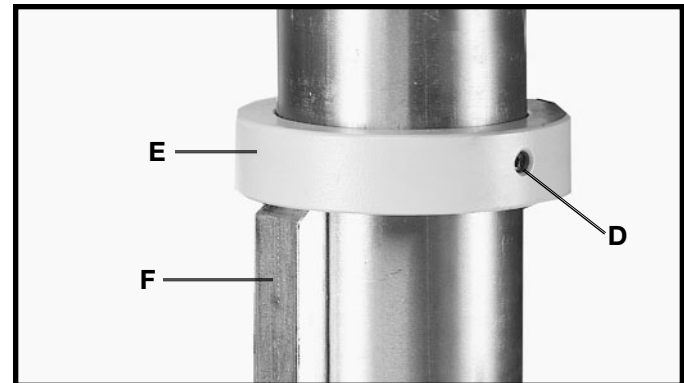

Fig. 9
5. Re-assemble ring (E) Fig. 9, which was removed in **STEP 1. IMPORTANT:** Bottom of ring (E) **MUST NOT** be pushed all the way down onto top of raising rack (F). **MAKE SURE** top of raising rack (F) is under bottom of ring (E) and that there is enough clearance to allow rack (F) to rotate around the column. **THEN TIGHTEN SET SCREW (D).**